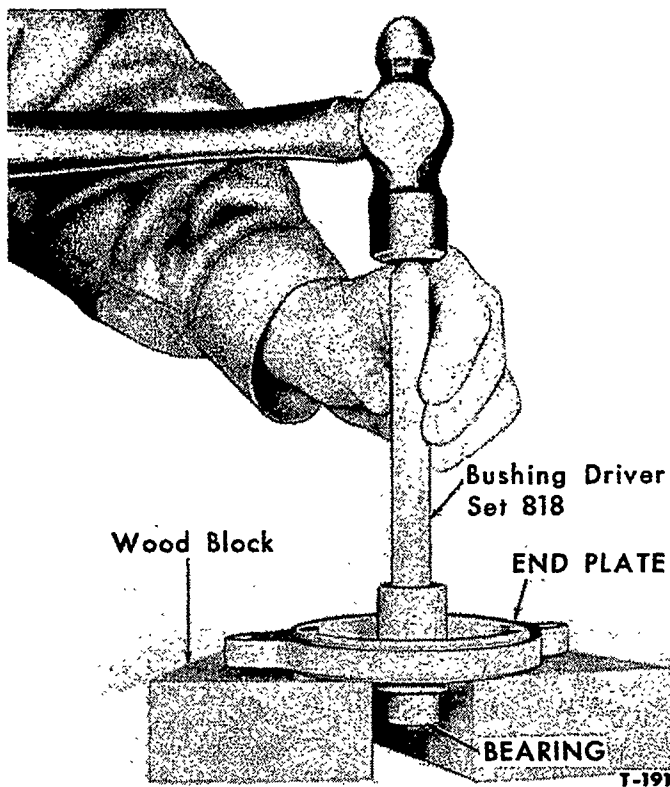

Figure 28—Removing Bearing from Front End Plate
2. Remove the bearing from the front end plate with Bushing Driver Set-818 as shown in Figure 28.